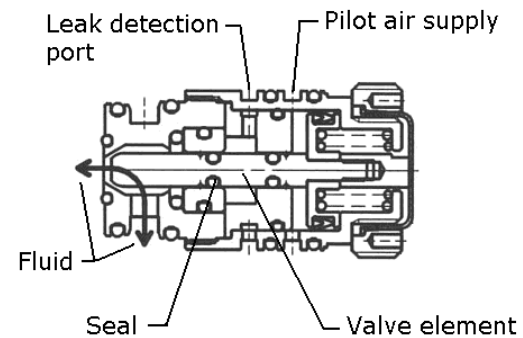

Figure 12
- The valve has a leak detection area what separates the fluid area from the pilot pressure area, See Figure 12.